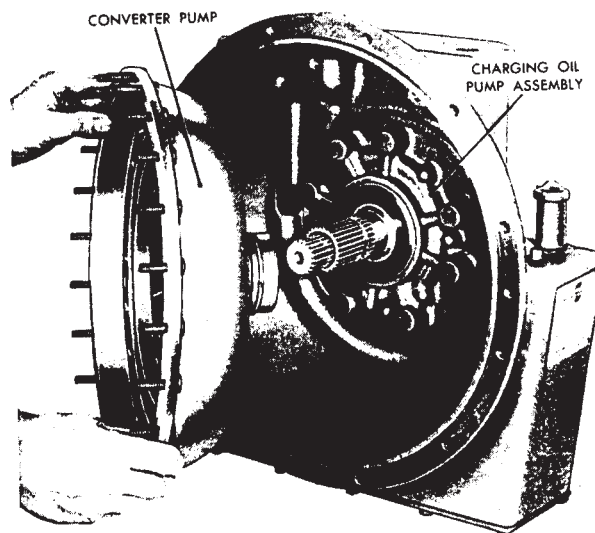

Figure 10-20. Converter Pump Removal
3. Using snap ring pliers, remove snap ring (13) and roller race spacer (14).
4. Remove the converter pump assembly, items (15) through (23). Also refer to figure 10-20.
2. Thread two of eight bolts (23, figure 10-24) through the converter housing into the pump body. Tap lightly with a soft hammer on the bolt heads until the charging oil pump assembly is loose. Remove the bolts and then remove the charging oil pump assembly. (See figure 10-20.)